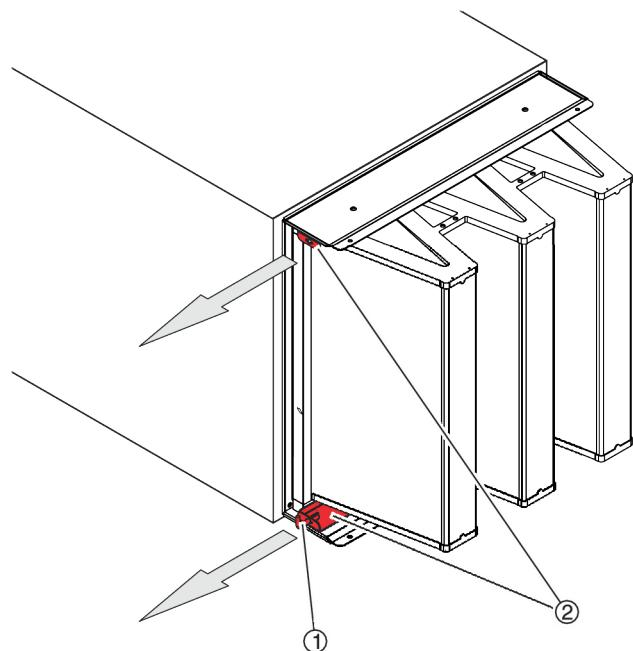

Fig. 24: Releasing the clamping rails
4. ▶ Use the special key (Fig. 24/1) to pull out the clamping rails (Fig. 24/2) as far as they will go.